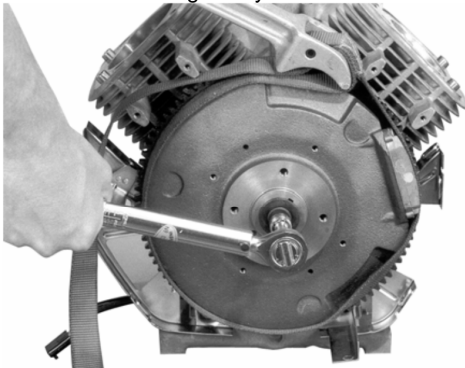

Figure 11-29. Hold Flywheel with a Strap Wrench while Torquing Fastener.
4. Use a flywheel strap wrench or holding tool to hold the flywheel. Torque the hex. flange screw securing the flywheel to the crankshaft to **66.4 N·m (49 ft. lb.)**. See Figure 11-29.